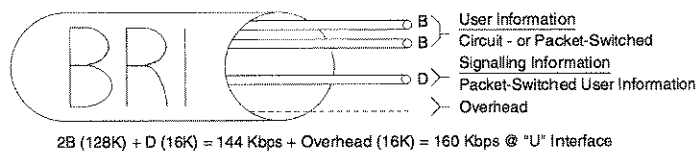

Figure 1. ISDN Basic Rate Interface
ISDN divides a standard 2-wire non-loaded telephone line into three Digital Channels capable of simultaneous Voice, Data, and low speed Video transmission. The three Channels are comprised of two Bearer (B) Channels, which carry Voice, Circuit-Switched, or Packet-Switched Data up to 64 Kbps, and a 16 Kbps Data (D) Channel for Packet-Switched Data and Signalling information. When combined, the two B-Channels and one D-Channel make up the Basic Rate (2B+D) Access. A Maintenance Channel and Framing information are added, and the result is a transmission rate of 160 Kbps at the "U" Interface. See Figure 1 below: